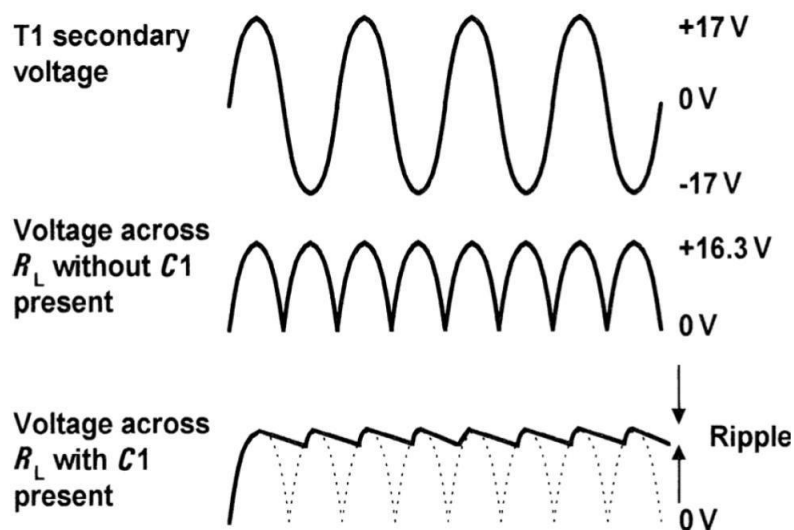

Figure 1.13 Waveforms for the bi-phase rectifier Note that the ripple frequency (100 Hz) is twice that of the half-wave circuit shown previously in Fig. 1.7.
- As a consequence, the only discharge path for C1 is through R_L . Fig. 1.13 shows voltage waveforms for the bi-phase rectifier, with and without C1 present.